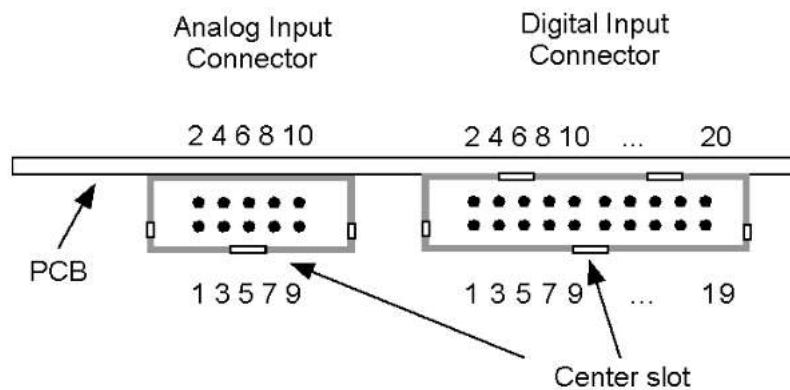

Figure 2 Analog and digital input connector configurations.
Analog and digital input connectors are mounted on the right hand side of the board, as shown in Figure 1. The analog and digital input connectors are a 10-pin and a 20-pin AMP type respectively. All connectors on the MPD-001 board have a standard 0.10 inch (2.54 mm) pin separation. The pinout diagram is shown in Figure 2.
2. Set the analog signal source at or near zero or their lowest output levels. Connect analog input connector cable to analog input connector JIN (10-pin connector, refer to Figure 1 and Figure 2).